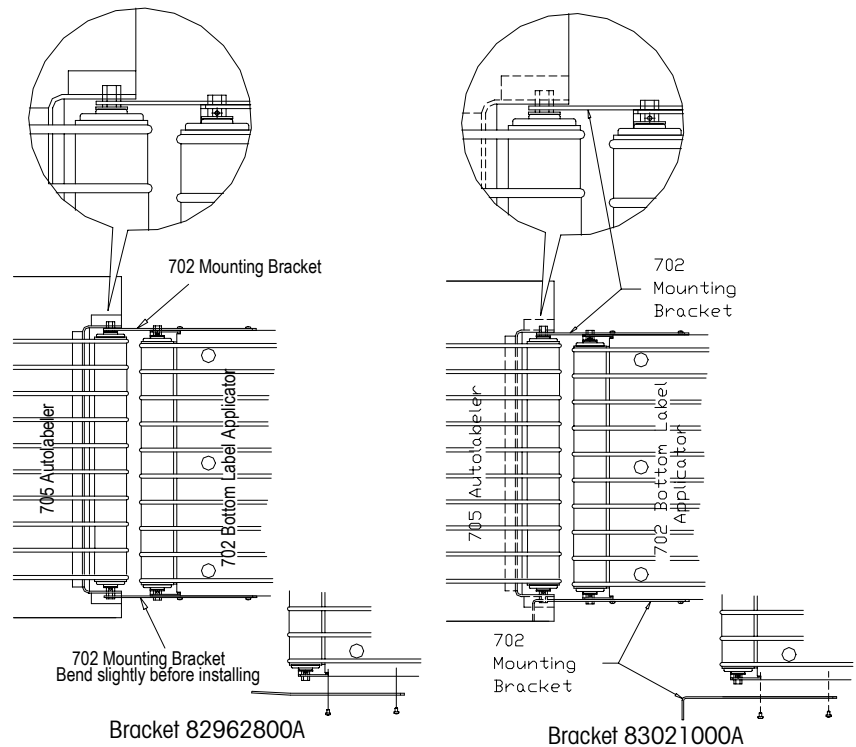

Figure 3-3: Mounting Brackets
- To install the 702 rear attaching bracket on the 705, grasp the right end of the 705 head pulley and pull it out far enough to slip the 702 attaching bracket over the end of the head pulley shaft inside the 705 slotted mount (Refer to Figure 3-3). Note: The conveyor belts do not have to be removed to perform this step.
- On units with attaching bracket P/N 82962800A, bend the 705 attachment end inward slightly (Refer to Figure 3-3). On units with attaching bracket P/N 83021000A, install as shown in Figure 3-3.